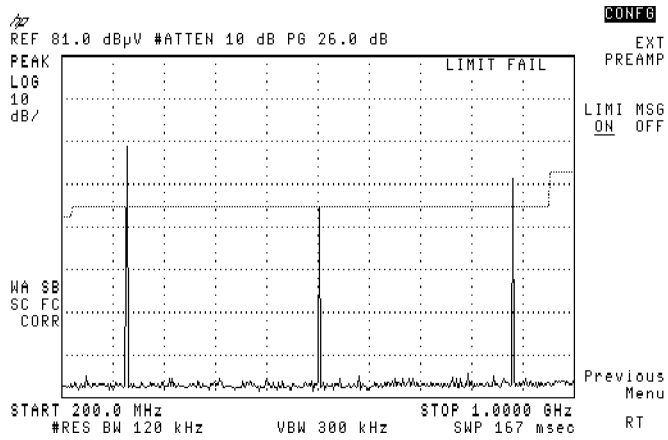

Figure 3-82. Displaying LIMIT FAIL
19. Press **LIMI MSG ON OFF** (**ON** will be underlined). **LIMI MSG ON OFF** turns the testing limits on. **LIMIT FAIL** is displayed because the calibration signal exceeds the limit line. See Figure 3-82.